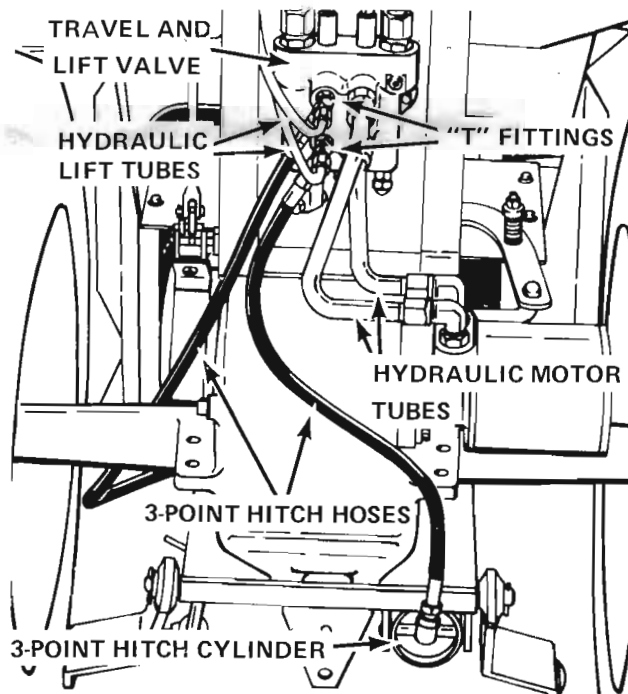

FIGURE 8
*13. Turn the "T" fittings onto the lift port straight fittings of the valve. With the fittings facing toward the right rear corner of tractor as shown in Figure 8 tighten the swivels against the lift port straight fittings.